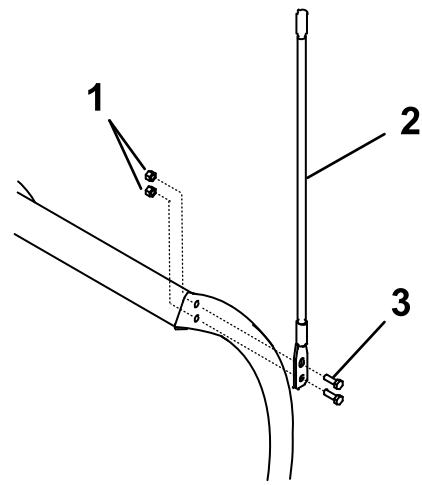

Figure 15
1. Attach the blade guides to the plow blade using 4 bolts (5/16 x 1 inch) and 4 self-locking nuts (Figure 15).